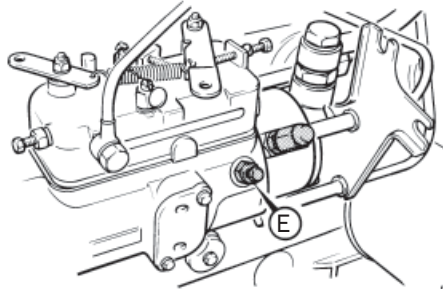

Figure 5.6.2 The rotary fuel pump.
2. Open the bleed screw (D) on top of the filter head.
4. Open the bleed screw, E (figure 5.6.2) on the side of the rotary fuel pump.